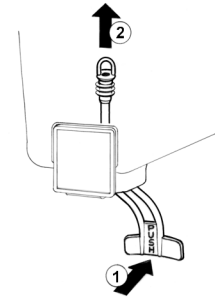

figure 4
take the pinch tube off from its seat (2) (see figure 4).